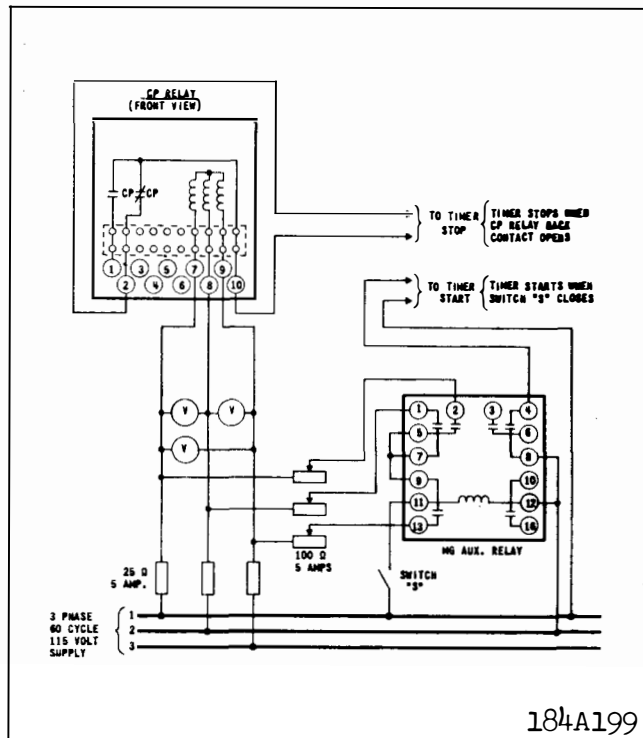

Fig. 8. Diagram of Test Connection for checking the Undervoltage Time Curves of the Type CP Relay.
3. Time Curve — The time curve can be checked by the use of the circuits of Figs. 8 and 9.
3. Time Curve Calibration — Install the permanent magnet and connect the relay as per the circuit of Fig. 8.